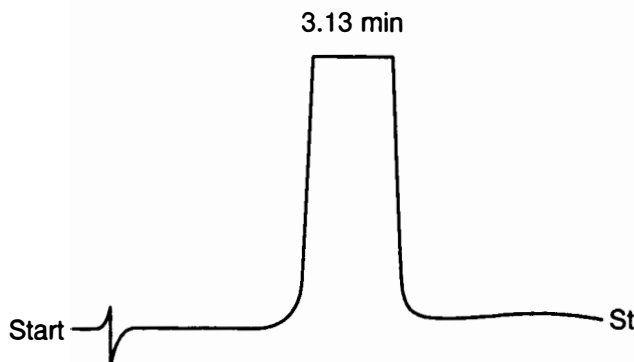

Fig. 2.3. Chromatogram indicating sample overload or too sensitive attenuation.
10. If the peak has a decidedly square top, increase the attenuation number by one or two factors and inject sample again. (See Figure 2.3.) The squared peak indicates sample overload or too sensitive attenuation of the recorder or integrator. Diluting the sample 1:1 will have the same effect and increasing attenuation settings. Repeat adjustments until peak is approximately 2/3 height of the recorder paper.